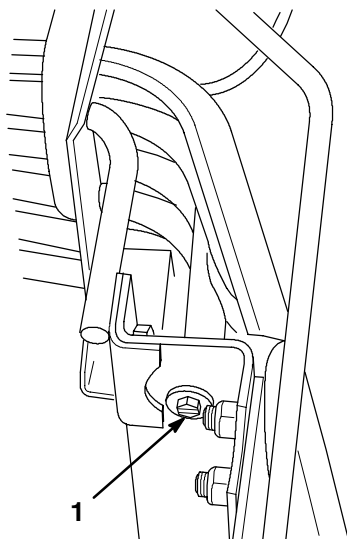

Figure 54
2. Remove the tractor's front grill by raising the hood and unscrewing the two screws and washers securing it in place (Fig. 54). Close the hood and remove the grill by pulling it out toward you.
7. Replace the front grill of the tractor, securing it with the two previously removed screws and washers (Fig. 54).
5. Replace the front grill of the tractor, securing it with the two previously removed screws and washers (Fig. 54).